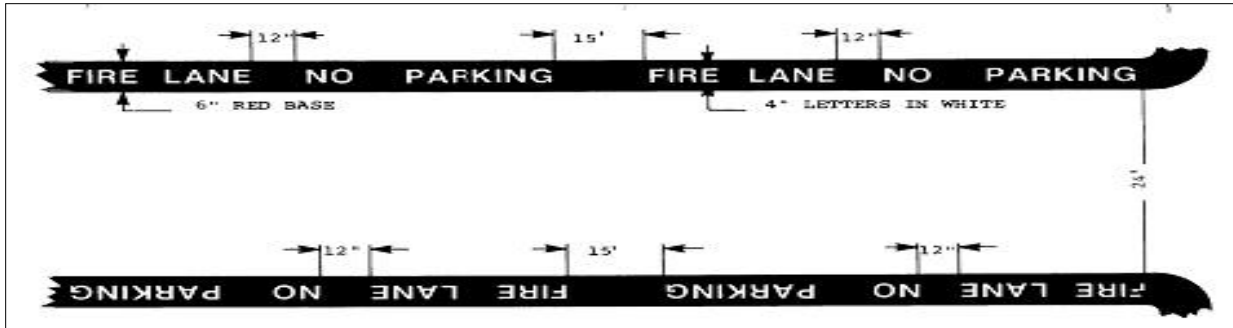

Figure 1: Fire Lane Diagram and Measurements
6. Each site shall have at least two (2) means of ingress and egress for fire accessibility.
9. "FIRE LANE NO PARKING" to be painted the entire length of the fire lane within the 6 inch red stripe with 4 inch lettering. (Please see Figure 1: Fire Lane Diagram and Measurement below)